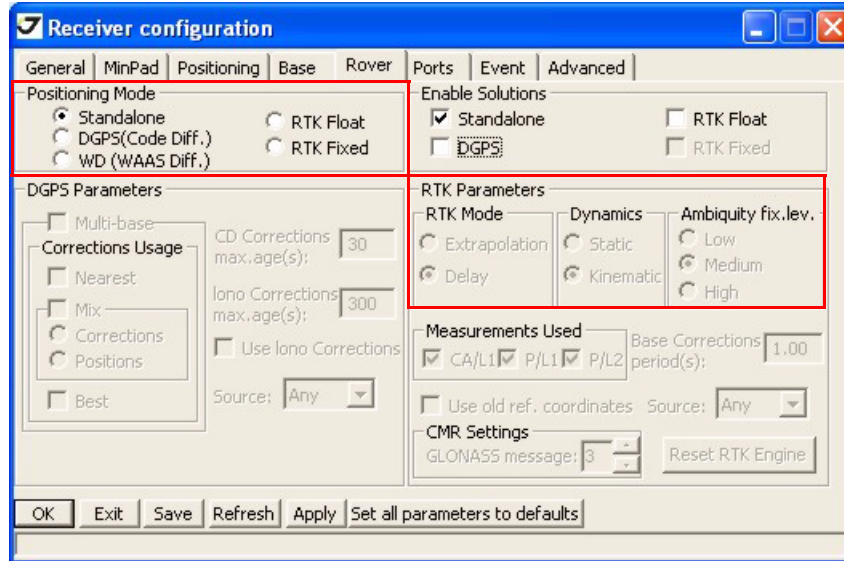

Figure 3-6. Rover Configuration
8. For the Rover receiver, click the *Rover* tab and set the following parameters, then click *Apply* (Figure 3-6 on page 35).